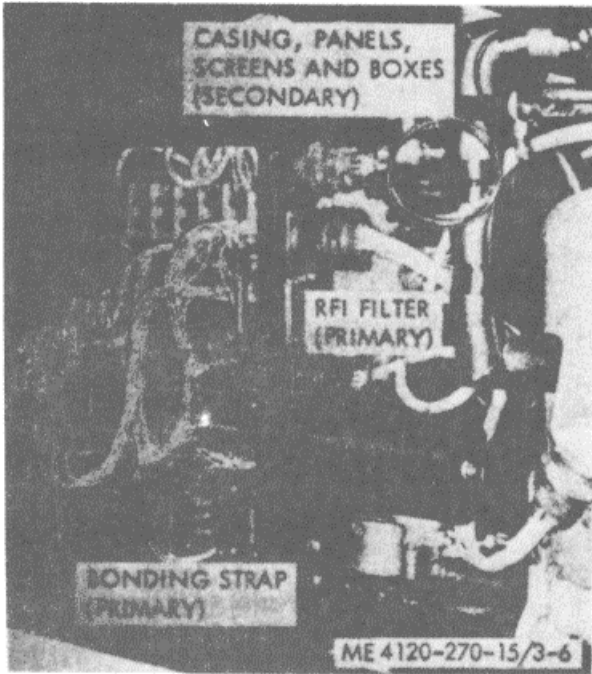

Figure 3-6. Interference . suppression components
- a. *Primary Suppression Components.* The primary suppression components are those whose primary function is to suppress radio frequency interference. These components are described and located in figure 3-6.
- b. *Secondary Suppression Components.* These components have radio frequency interference suppression functions which are incidental and/or secondary to their primary function and are located in figure 3-6.